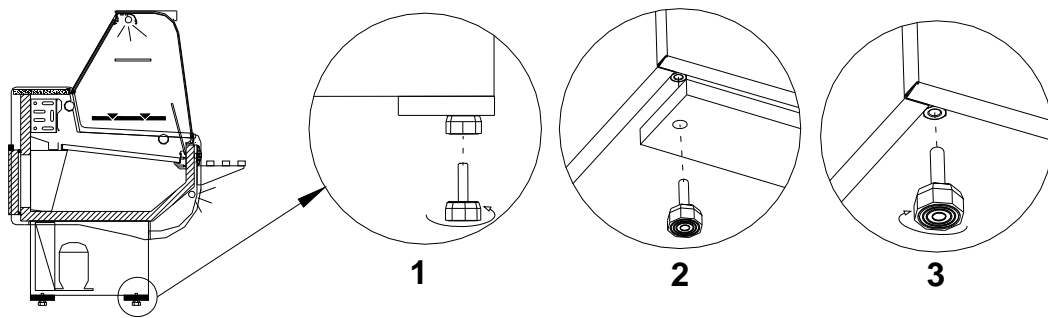

Fig.2 Removing the wooden platform
- Unpack the device and remove the wooden platform from the basis *Fig.2 (p.7)*